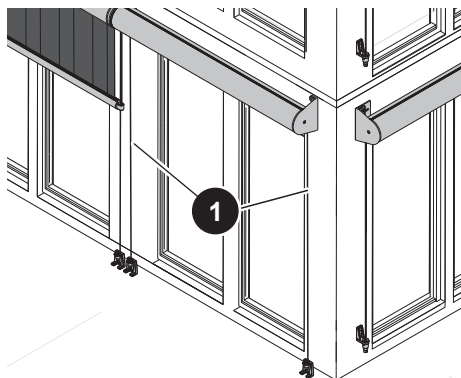

Fig. 18: Cleaning rope guides
4. Brush off rope guides (fig. 18/1).